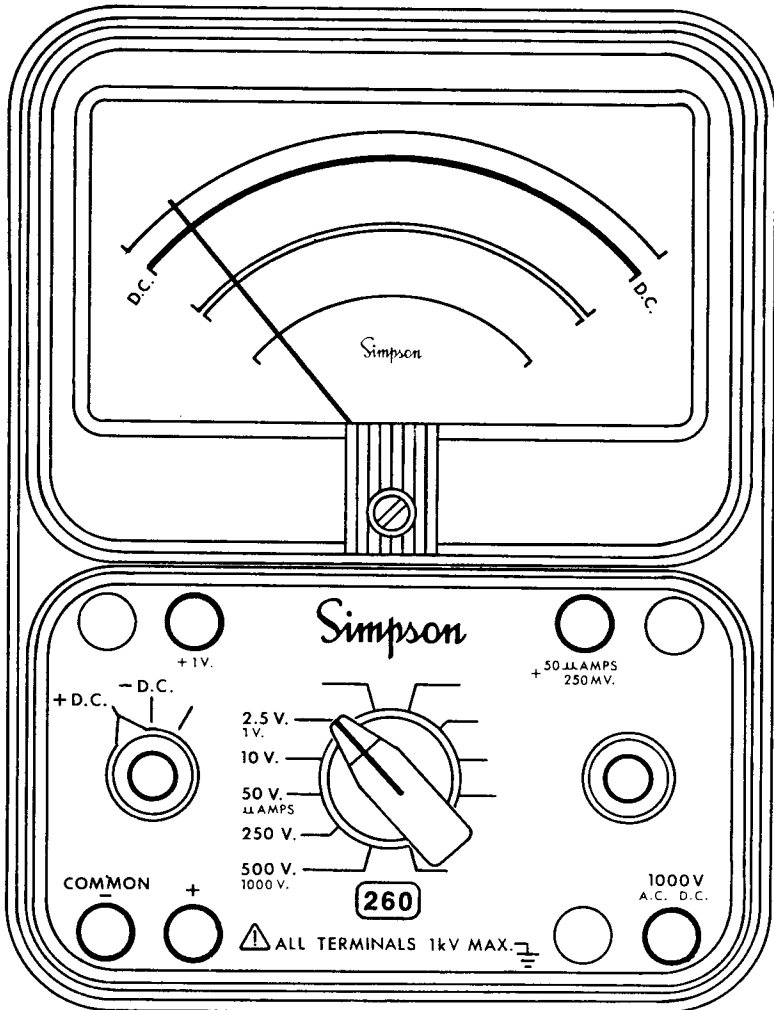

FIGURE 4-1. JACKS AND SWITCH POSITIONS FOR MEASURING DC VOLTAGE
- a. Set the function switch at +DC (Figure 4-1).